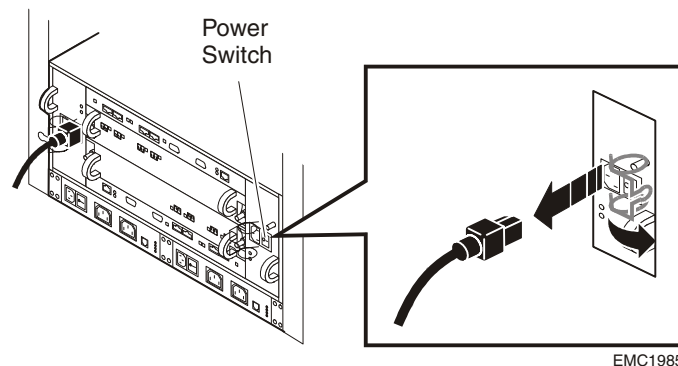
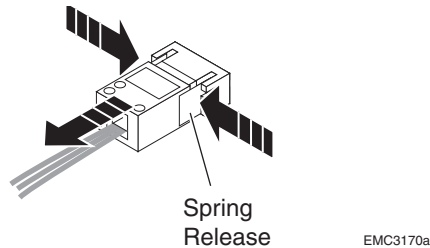

Figure 3-8 Removing the Power Supply ac Line Cord
Figure 3-9 Disconnecting dc Power Cords
2. Move any retention bail aside by disengaging the cord from the loop, and unplug the ac/dc line cord. Figure 3-8 shows how to remove ac power cords, Figure 3-9 shows how to disconnect dc power cords.